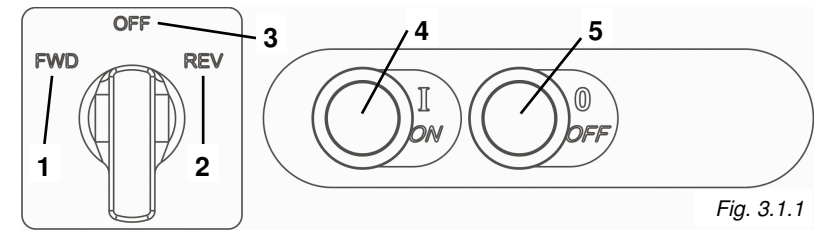

Fig. 3.1.1
2. Start the machine in extruding mode by positioning the selector switch to position "2" REV (Fig. 3.1.1).
Press the run button ("1", Fig. 3.1.1).
#### 5.3 - Verification of the efficiency of the emergency stop button (Fig. 3.1.1)
#### 5.4 - Machine start-up (Fig. 3.1.1)
To start the machine, press the button (4) after having set the selector switch to extruding mode (1) or kneading mode (3) Fig. 3.1.1, and after having correctly plugged the cable into the power socket: the machine will start. If the switch is set to OFF the machine will not start.
#### 5.5 - Machine stop (Fig. 3.1.1)
To stop the machine, press the stop button "5" Fig. 3.1.1.